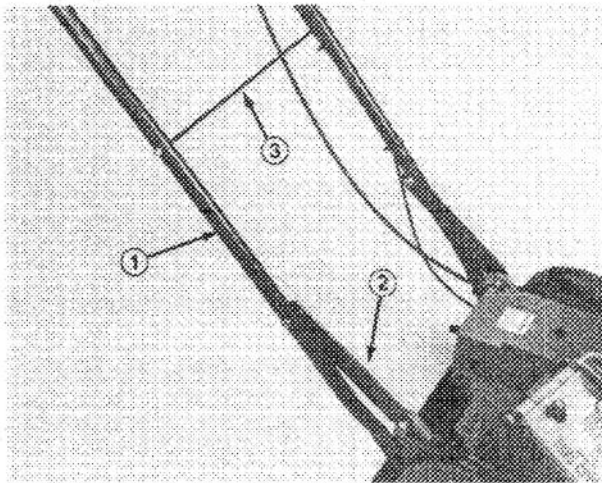

Figure 1
1. Mount handle to outside of mower housing with (2) Shoulder screws and (5/16-18) locknuts (Fig. 1).
2. Pivot handle latches backward and secure to handle with (2) (5/16-18 x 1.50 lg.) capscrews and (2) (5/16-18) locknuts (Fig. 1). Position locknuts on outside of handle.
3. Slide bag support rod thru mounting holes in handle and secure each end with (2) cap locknuts (Fig. 1).